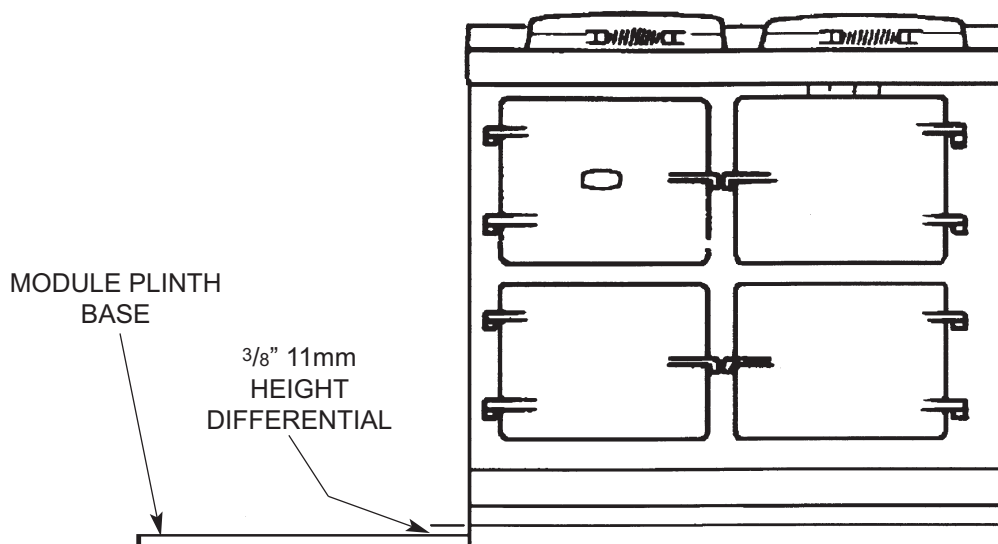

Fig. 6
5. The Module plinth can now be levelled and fitted up to the main appliance. Position the Module plinth alongside the AGA TC3/DC3 leaving no gap between the two plinths. (See Fig. 6).
Also check height differential between the Module plinth and AGA Total/Dual Control plinth is correct $\frac{3}{8}$ " (11mm) (See Fig. 6 or 6A). If necessary, use the adjusting studs in each corner to level the plinth. In extreme instances, shims may be used underneath the plinths .